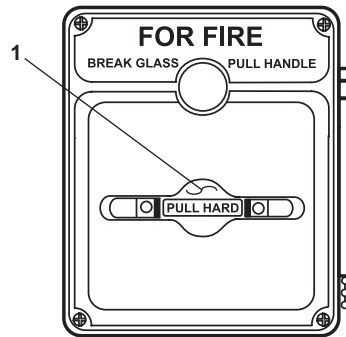

Figure 10. Interior FM-200 Manual Pull Box
7. Break the glass on one of the FM-200 manual pull boxes (figure 10 or 11, item 1). Pull boxes are found in the following locations:
8. Pull the handle (figure 10 or 11, item 1) to actuate the FM-200 system. The handle is designed to require less than 40 pounds (18.14 kg) force and 14 in (35.6 cm) of pull to operate. If the FM-200 system fails to actuate, proceed to the FM-200 cylinder location, AMS 2, frame 22, and follow the emergency discharge instructions posted at the FM-200 cylinder location and in WP 0006 00. Enter and evacuate AMS 2 using the emergency escape scuttle.